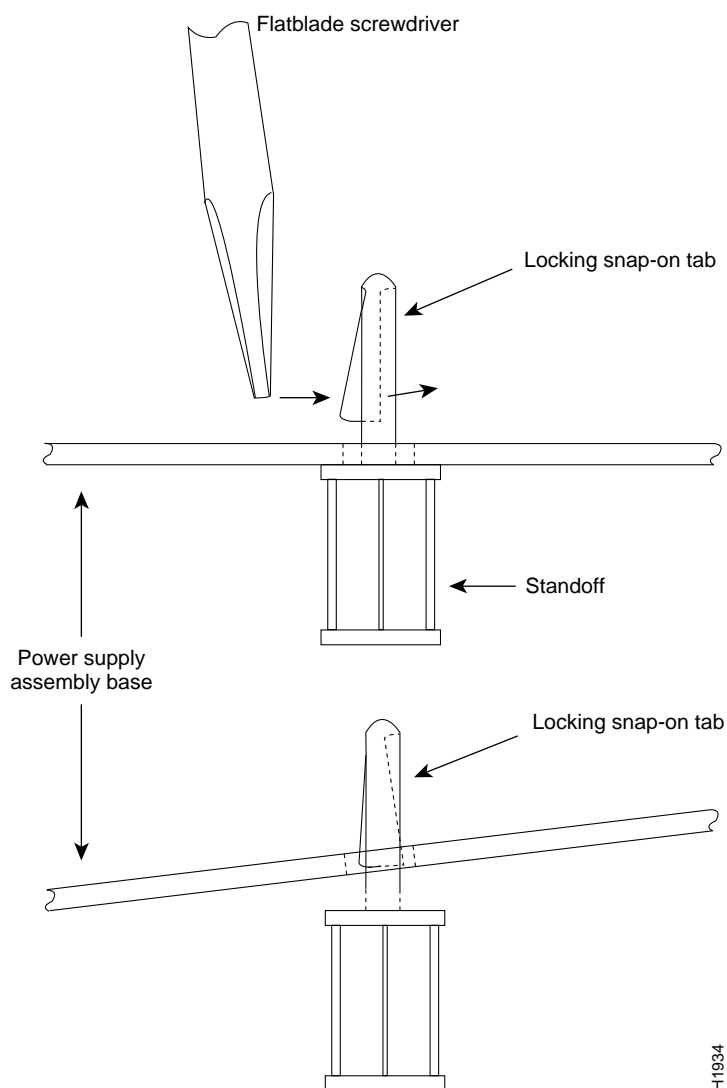

Figure 9 Power Supply Assembly Base Removal
- Step 6** Use needle-nosed pliers or a small screwdriver to push the tab inward while you slip the power supply assembly base over the tab (see Figure 9). Only lift the base up far enough to prevent the tab from snapping back into place; if you try to pull it completely off the standoff, you might damage the card or other standoffs.